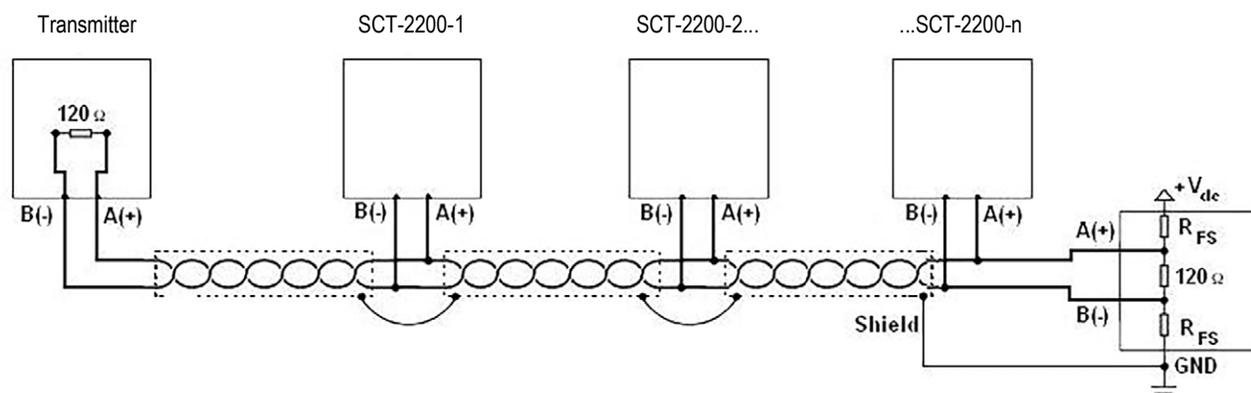

Figure 2-1. Electrical Diagram of RS-485 Connection
2. The shielding can be connected to a single point in the network (as shown in Figure 2-1) or at both ends, however, it is important that all the devices have the same potential in order to avoid forming ground rings.
3. Connect two termination resistances equal to the characteristic impedance of the cable (typically 120  $\Omega$ , see Figure 2-1 on page 3). Only connect the two devices at the two ends of the ring connection (Example: indicator and last device). The terminal resistance is not supplied with the ports of the indicator.
5. To create a resistive divider which maintains this difference of potential when all the transmitters are disabled, insert in the RS-485 port where the termination resistances are located the polarization or fail-safe resistances ( $R_{FS}$  in Figure 2-1 on page 3). The value of these resistances is between 390  $\Omega$  and 2.2 k $\Omega$ .